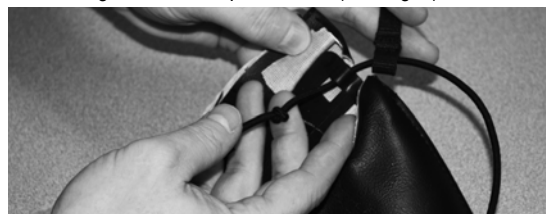

Figure 7
- ⑥ Tie a knot in Bungee below the plastic hole (see Fig. 7).